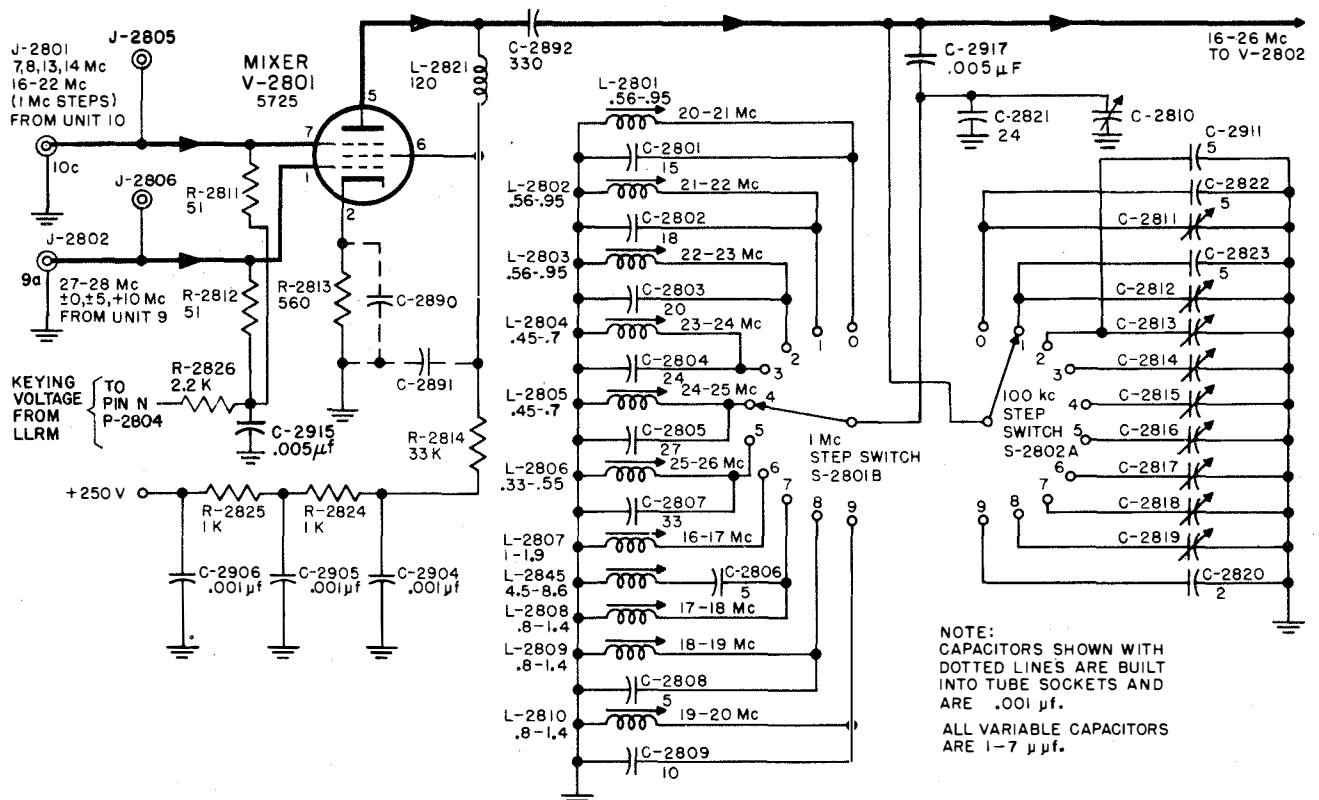

Figure 2-38. RFO Unit 11C, Mixer V-2801, Simplified Schematic
(1) MIXER V-2801.—The suppressor of mixer V-2801 (figure 2-38) receives from J-2801 the 7-, 8-, 13-, 14-, 16-, 17-, 20- or 21-mc signal (10c) from unit 10. Test point J-2805 is provided for testing input 10c (approximately 0.4 volt). The control grid receives 22 to 23 mc, 27 to 28 mc, 32 to 33 mc, or 37 to 38 mc (9c) from unit 9. Test point J-2806 is provided for testing input 9c (approximately 1.2 volts). These signals are mixed in accordance with the (AA) KNOB and (BB) KNOB controls. For example, if the (AA) KNOB and (BB) KNOB controls are both set to 3 (23 mc), unit 9 delivers 37 to 38 mc to unit 11C and unit 10 delivers 14 mc. Under these circumstances, mixer V-2801 delivers an output of 23 to 24 mc. (See paragraph 2r(2).) Resistors R-2811 and R-2812 connect the suppressor and screen grids to the LLRM keying circuit through the decoupling filter comprising R-2826 and C-2915.